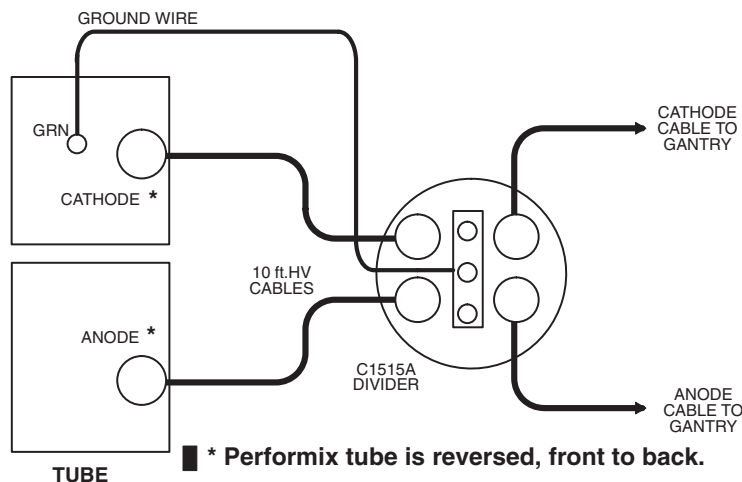

Figure 51 - HV Divider Installation
- 2.) Add a ground wire (minimum size of AWG 12) from Tube ground to bleeder ground. Refer to Figure 51.
- d.) Remove the **HV** Divider between the Tube and Tanks (Figure 51, on page 50).